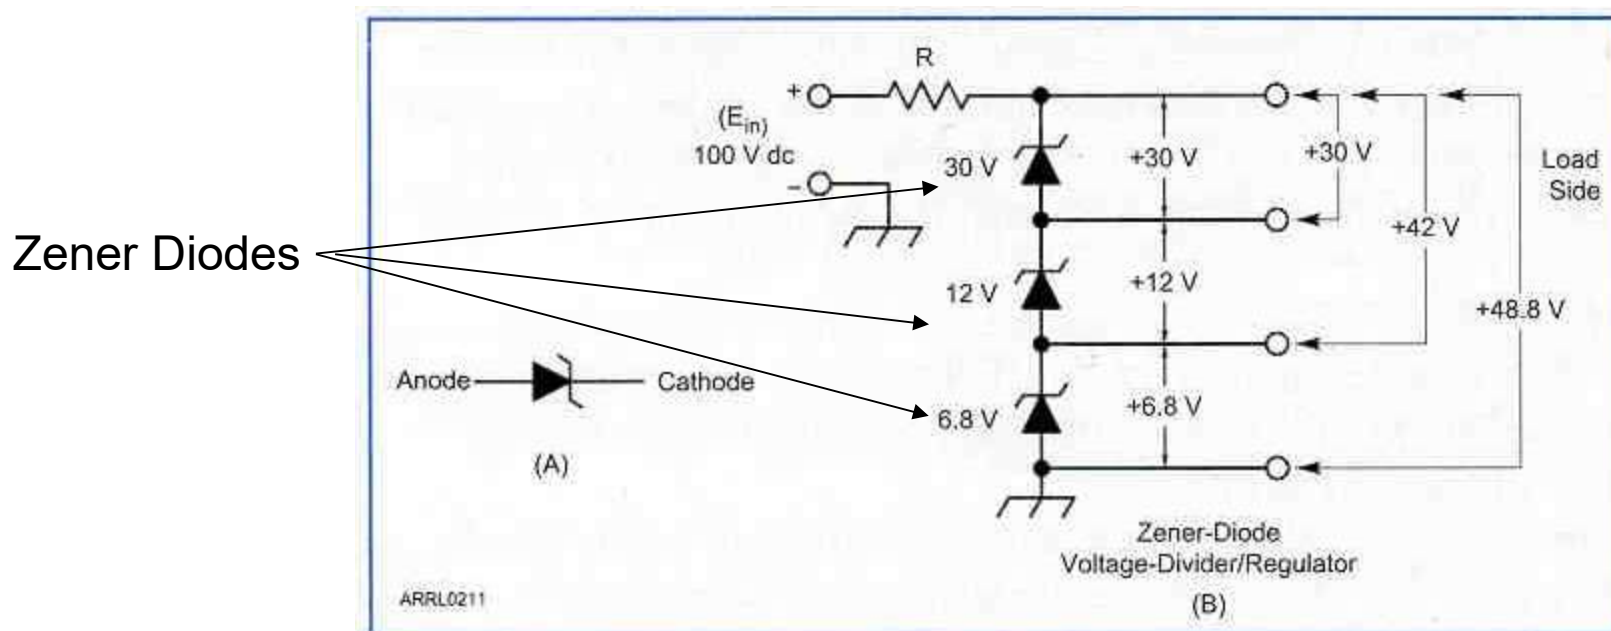

Figure 5.10 — The schematic symbol for a Zener diode is shown at A. B is an example of how Zener diodes are used as voltage regulators.
**Figure 5-10—** This drawing represents the internal structure of a hot-carrier diode. The whisker contact is attached to a metal contact directly on the semiconductor material, improving mechanical and electrical performance over a point-contact diode.